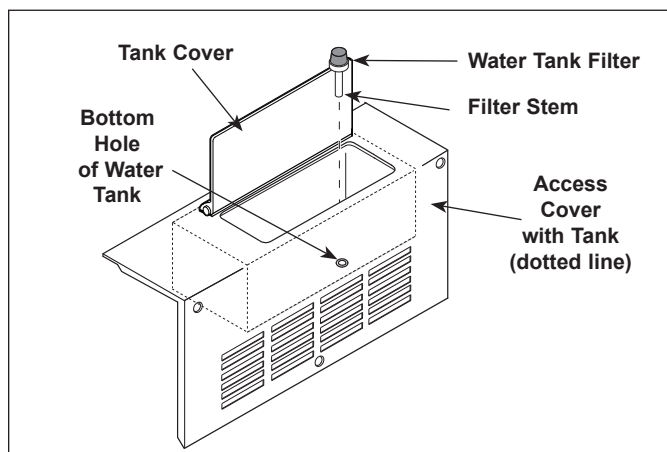

Figure 11. Water Tank Filter
2. Open the Slide Door (Figure 11).
5. Reinstall the Filter Stem into the bottom hole of the tank (Figure 11).